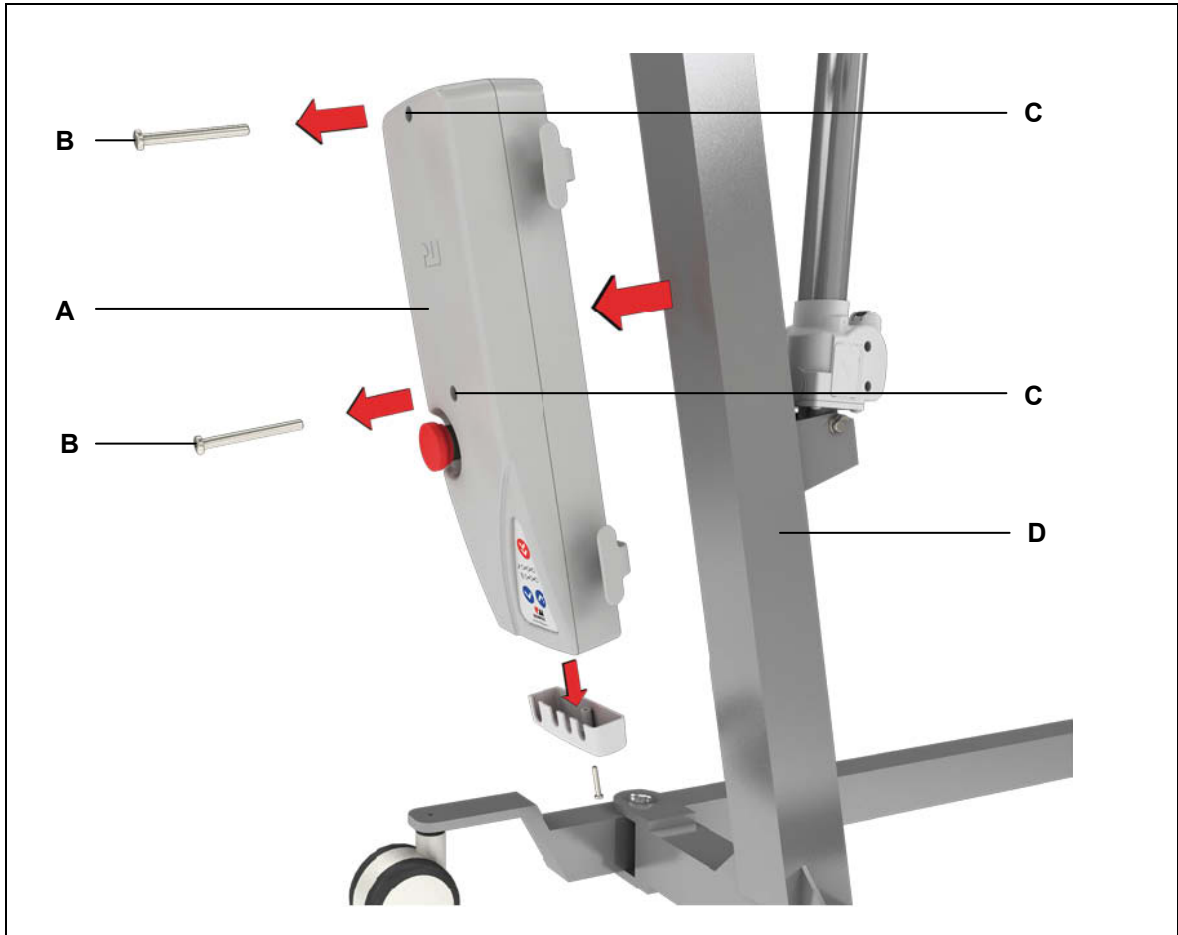

Figure 11 Dismantling from the patient lifter
- 4 Loosen the two cylinder head screws at the attachment points of the ACCUCONTROL (refer to Figure 11).